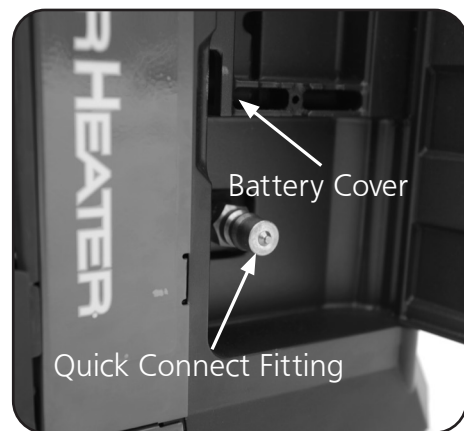

Figure 5
Open the battery cover located inside the accessory compartment to install the "AAA" battery (included). See Figure 5.
2. Attach accessory hose onto the quick connect fitting in the side compartment of heater. See Figure 5.